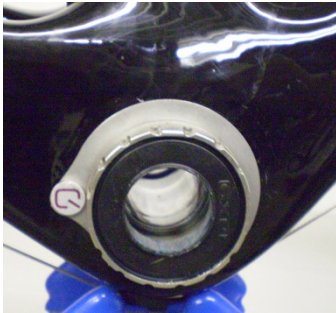

Figure 1
3. It is best to have the magnet located in the 9 o'clock position when you snug up the bottom bracket. (Figures 1 & 2)